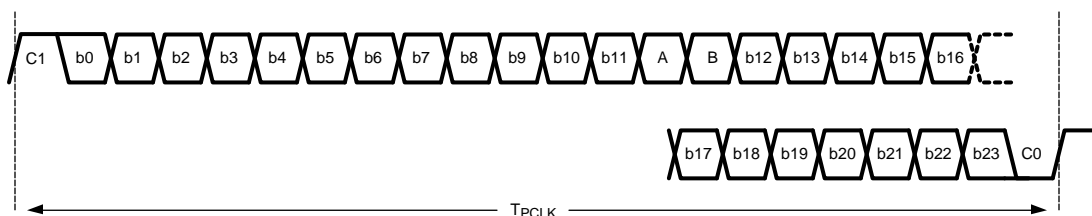

Figure 2. 24-bit Serial Payload Example
An example of the 24-bit (user) payload is shown in Figure 2. The 24-bit data field is appended with four additional serial bits which provide the embedded clock information, link coding, and operating mode information. A fixed clock edge is created between the C0 and C1 bits, and the coding/mode information is conveyed by the A and B bits.
The serial payload is optimized for the different chipsets in the FPD-Link II family and also for the applications they support. A common serial payload to explain as a reference is the 28-bit serial frame shown in Figure 2. The 28 bits are comprised of: 24 data bits, 2 bits of embedded clock information, and 2 bits of serial control for the link. Thus, for every 24 bits of data, 28 serial bits are sent. This makes the basic link 24/28 (86%) efficient. This is an important bench mark, as it is always desirable to keep overhead low. This scheme is also ~30% better than the common data communication 8b/10b scheme which is 80% efficient. Note that the 24 data bits are modified by the balancing, randomization, and scrambling. This is done to support the AC coupling on the link, and also to help reduce ISI (Inter-symbol Interference) effects when sending relatively static data. The two clock bits are fixed, with one bit high (C1) and one bit low (C0) – note these two are DC balanced as a pair. The two serial control bits, commonly noted as DCA (A) and DCB (B), provide information to the DES to recover the data and also the link status and mode. Chipsets supporting 24-bit RGB encode the status of video synchronization signals in the serial stream.